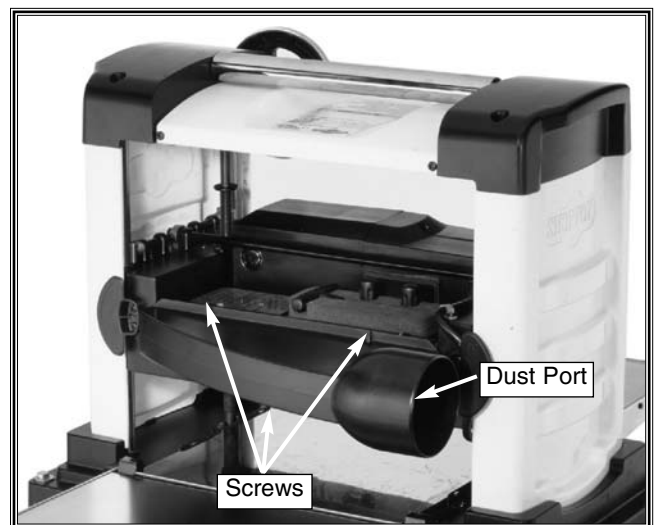

Figure 12. Dust port mounted to planer.
2. Thread and tighten the three Phillips® screws. **Figure 12** shows the dust port correctly installed on the planer.